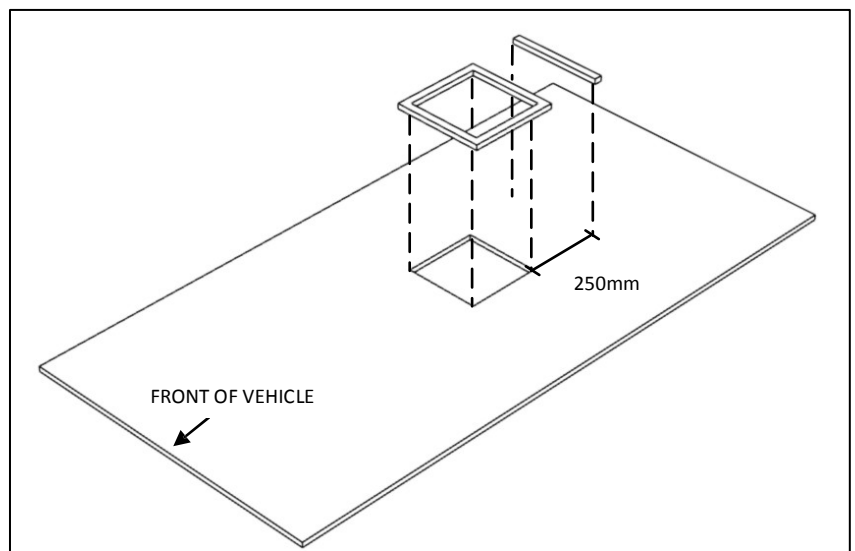

Fig 5: Shows the placement of the roof gasket over the hole. Note the positioning in relation to the front of the vehicle
- Remove the paper backing from gasket and position over square hole. Second gasket to be located 250mm behind and parallel (Fig 5)
- Gasket must be applied with self-adhesive side down. Note orientation of gasket to direction of travel (Fig 5). Press gasket down to ensure good adhesion.